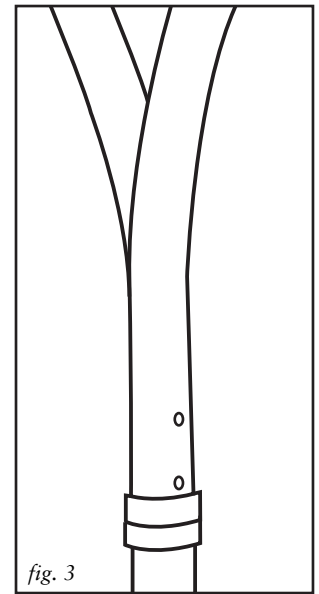

fig. 3
4. Place the other curved steel arm on the front circular tube (furthest from the vehicle) of the Trailer Hitch Stand base, aligning the holes in the curved arm with the holes in the stand base, the top of the curved arm angled to the right. Align holes, insert bolts, and secure tightly (see fig. 3).